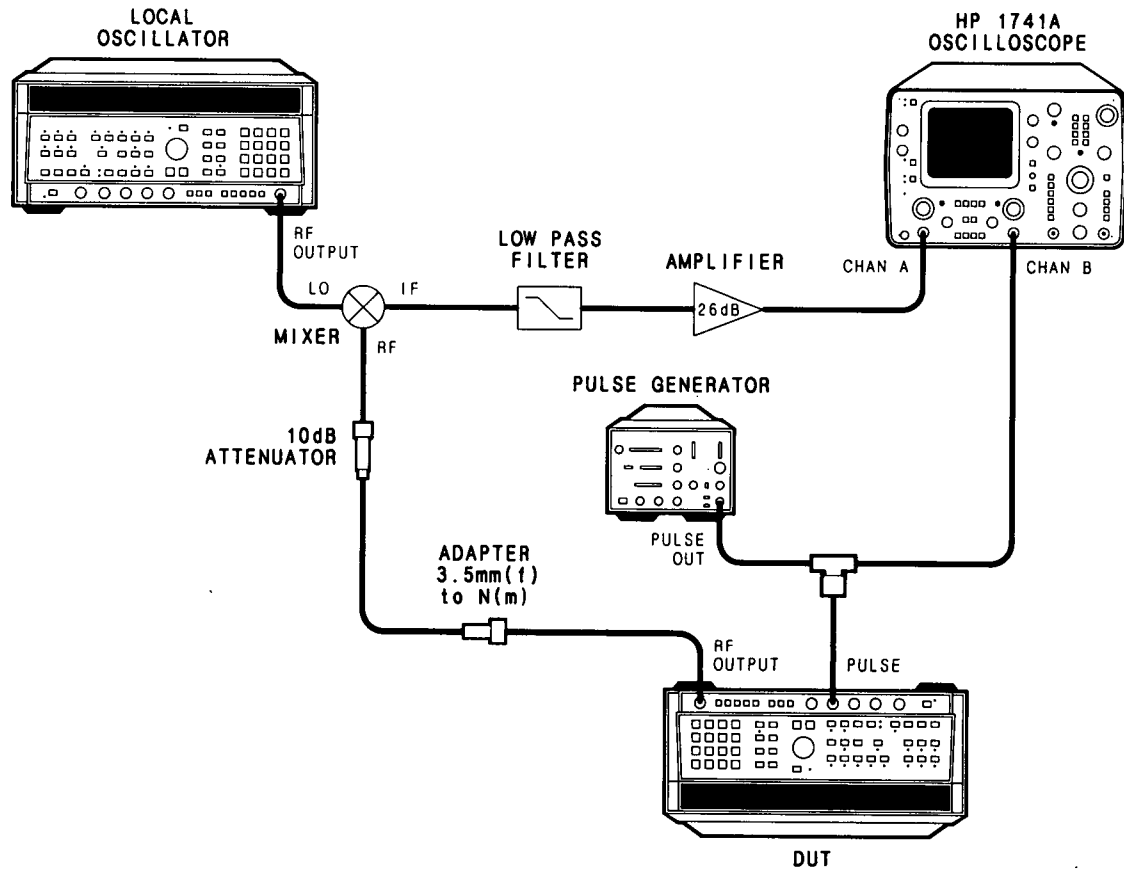

Figure 5-68. Slow Pulse Modulation Fine Adjust Setup
16. Connect the equipment as shown in Figure 5-68. Connect the mixer directly to the local oscillator's RF output to obtain the maximum LO drive to the mixer. Connect the BNC tee directly to the DUT's PULSE connector. Allow 30 minutes for the instruments to warm up.